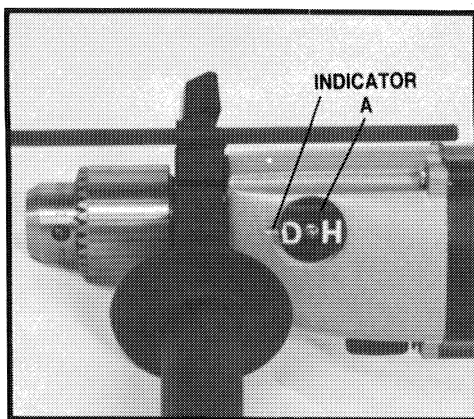

Fig. 3
By rotating the mode selecting knob (A) Fig. 3, in either direction (clockwise or counterclockwise) the mode of operation may be selected. When the